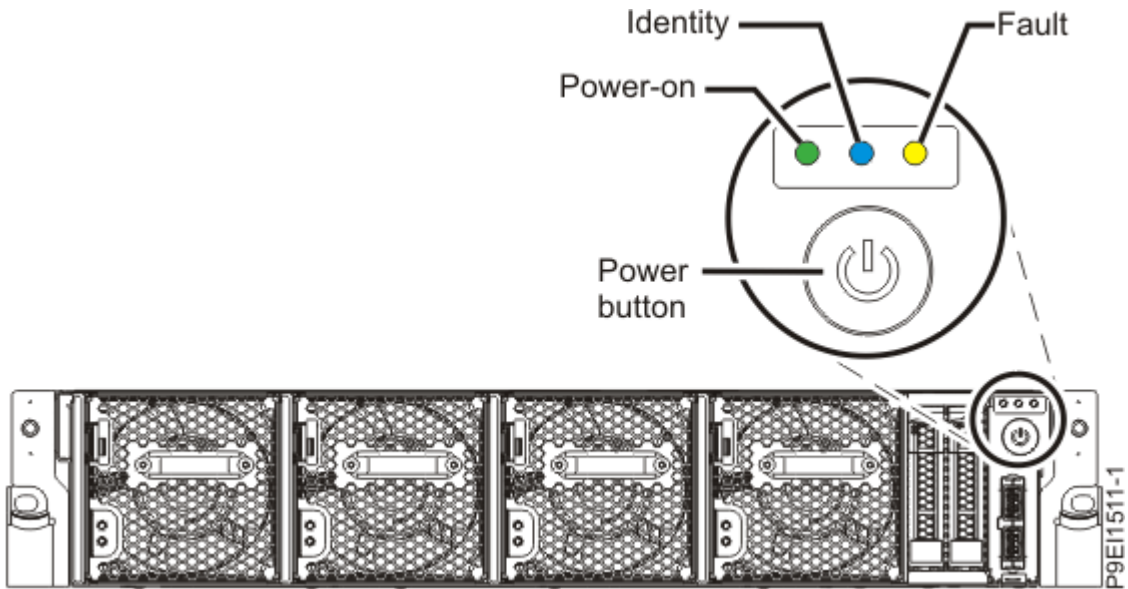

Figure 9. Power button
- The power-on LED as shown in Figure 9 on page 22, is flashing. A flashing light indicates standby power to the unit.
3. Press the power button that is shown in Figure 9 on page 22.